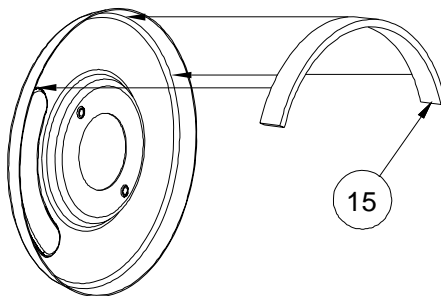

FIGURE 2
7. If hot and cold supply inlets are reversed simply remove cartridge and reinstall with cartridge flipped 180°. The handle adaptor (12) will need to be readjusted. To adjust handle adaptor remove and turn 180°. Handle should always turn through cold, then hot. Reinstall cartridge and tighten escutcheon to 150 in lbs. The system will need to be flushed again before installing shower heads.
8. To adjust temperature limit stop (11), turn valve to desired hottest temperature, remove temperature limit stop (11) turn clockwise and reinstall so that the white protrusion on cartridge is touching the red protrusion on the temperature limit stop.
- Hand tighten escutcheon nut (20) on valve.
- Remove tape from gasket (15) and adhere gasket (centered on the top half of the back of cover plate (16)) so that 1/4 of the width of the gasket is sticking out beyond the back of the cover plate, see Figure 2.
- Place cover plate over escutcheon (19) and fasten with screws (18).